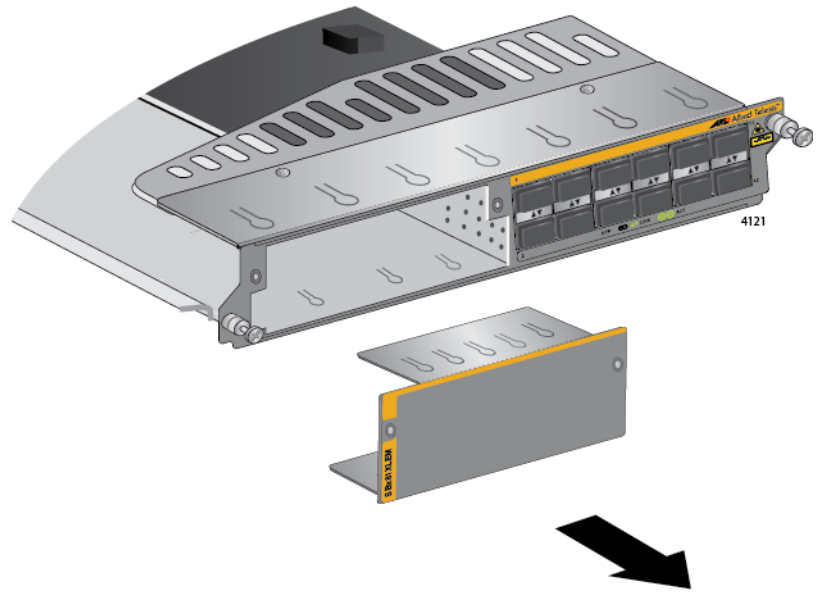

Figure 89. Removing the Blank Slot Cover from the AT-SBx81XLEM Line Card
5. Slide the blank slot cover from the slot. Refer to Figure 89 on page 162.